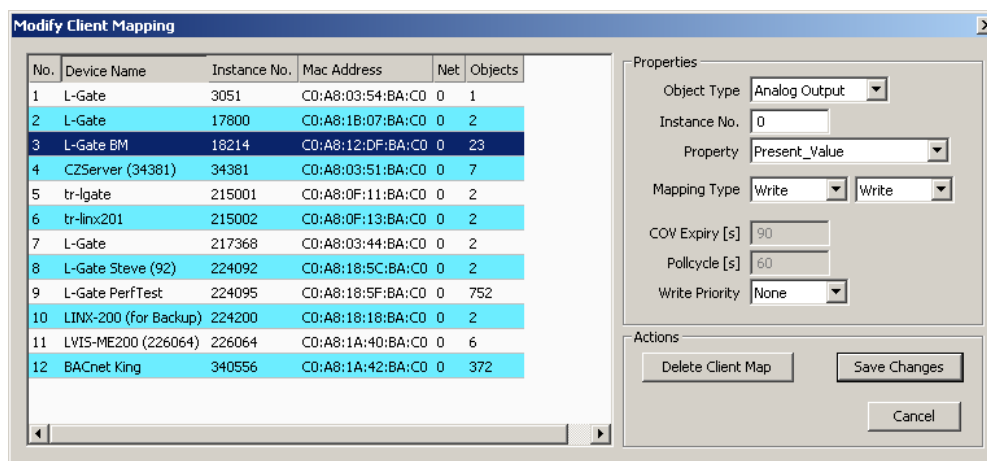

Figure 133: Modify Client Mapping Dialog.
- This opens the **Modify Client Mapping** dialog as shown in Figure 133.